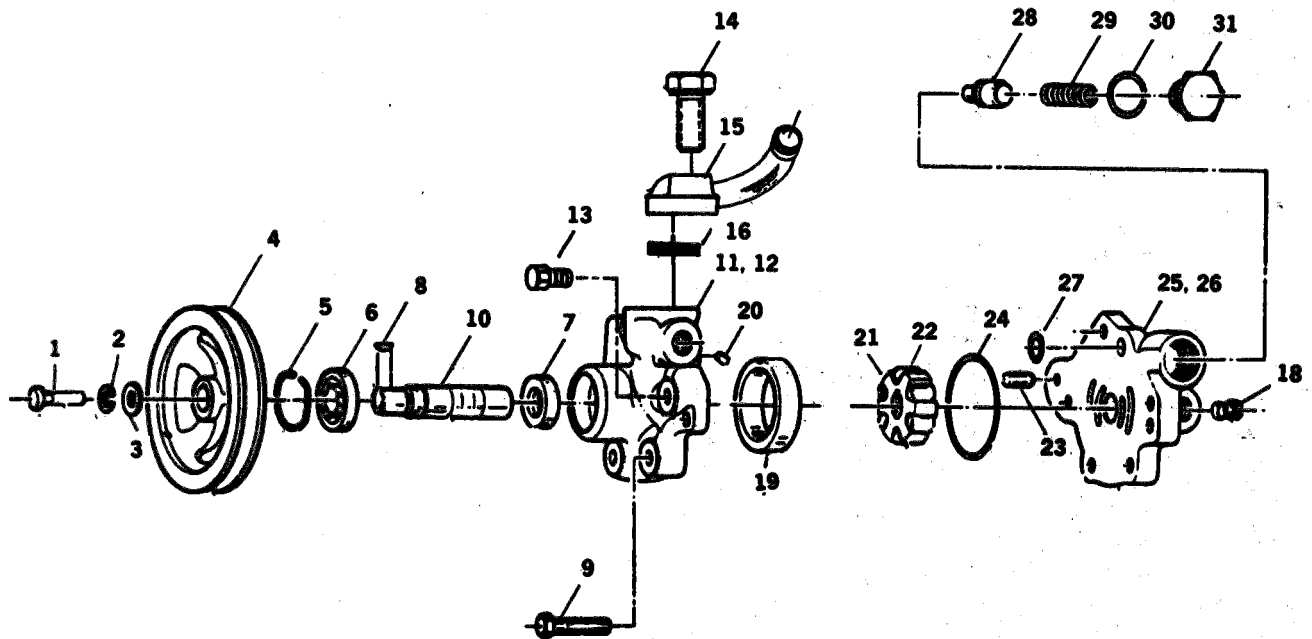

Figure 6-7. Steering Pump
d. Remove bolt (1, figure 6-7), lockwasher (2), and washer (3). Using puller, remove pulley (4).
e. Remove bolt (14), adapter (15), and gasket (16).
f. Remove bolts (9 and 13) and separate body (11) and cover (25) by lifting cover vertically to prevent internal parts from falling out.
h. Scribe line on carrier (21) and cam (19) to aid in assembly. Do not scratch surfaces.
i. Remove rollers (22), carrier (21), and drive pin (23).
- b. inspect bushings (12 and 26, figure 6-7). If bushings are worn, replace body (11) or cover (25) as needed.
- c. Inspect pulley (4) for worn sheave and cracks.
- b. install valve (28, figure 6-7). Ensure that ball end of valve enters first.
- c. Install new o-ring (30), spring (29), and cap (31).
- d. Torque cap (31) from 30 to 35 foot pounds.
- e. Install new seal (7) in body (11) with lip of seal toward carrier (21).
- f. Press bearing (6) on shaft. (10) until bearing seats against shoulder.
g. Install shaft (10) and snap ring (5). Ensure that snap ring is seated.
h. Install pin (20) and cam (19). Ensure that notch in cam indexes pin (20) and that cam is firmly seated.
i. Install drive pin (23), and carrier (21). Ensure that line on carrier indexes with line on cam (19).
j. Install rollers (22) and check end play as follows:
- 1. Place straight edge across edge of carrier (21).